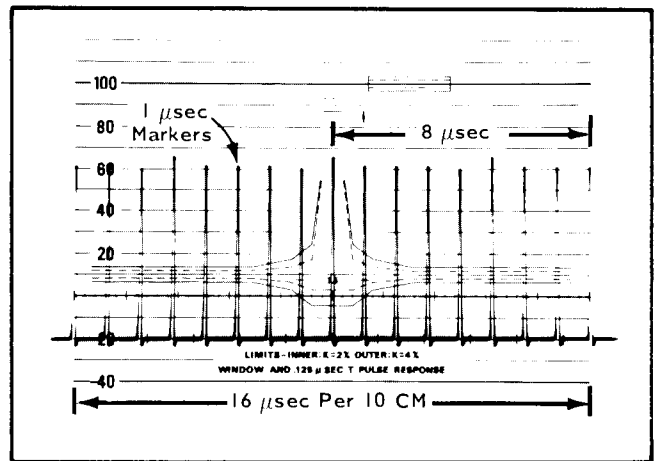

Fig. 6-21. Checking the $\times 5$ sweep timing.
- Check for $16\ \mu\text{s}$ of sweep time per 10 cm (see Fig. 6-21). Sweep-timing tolerance should be within $\pm 3\ \text{mm}$.